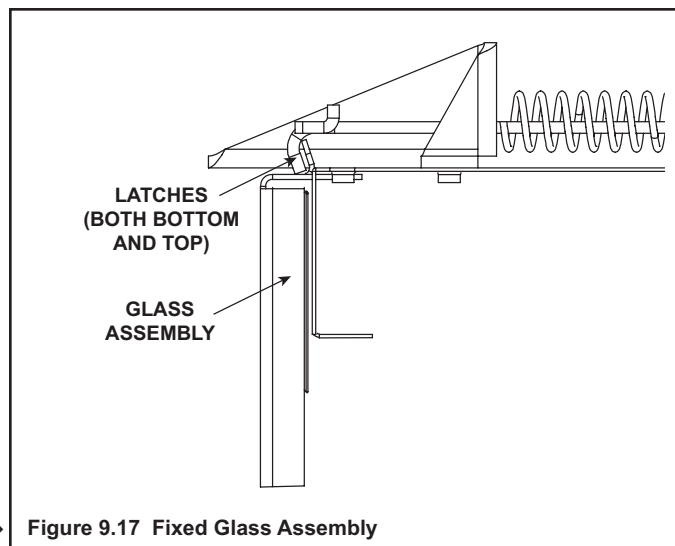

Figure 9.17 Fixed Glass Assembly
- Noting carefully how the brackets fit on the glass, release the two spring latches at the top and two at the bottom of the glass door. Carefully lift the glass up and out away from the appliance. See Figure 9.17.
- Pull the four glass assembly latches out of the groove on the glass frame. Remove glass door from the appliance (see Figure 9.17).